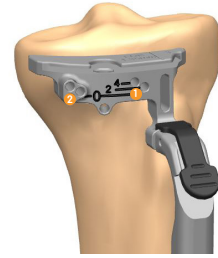

Figure 83
5. With the Adjustable Tibia Stylus set to the desired resection level on the lateral side, pin the cutting block on the lateral side by using a non-headed 65mm pin through the hole marked '0.' (Figure 83).